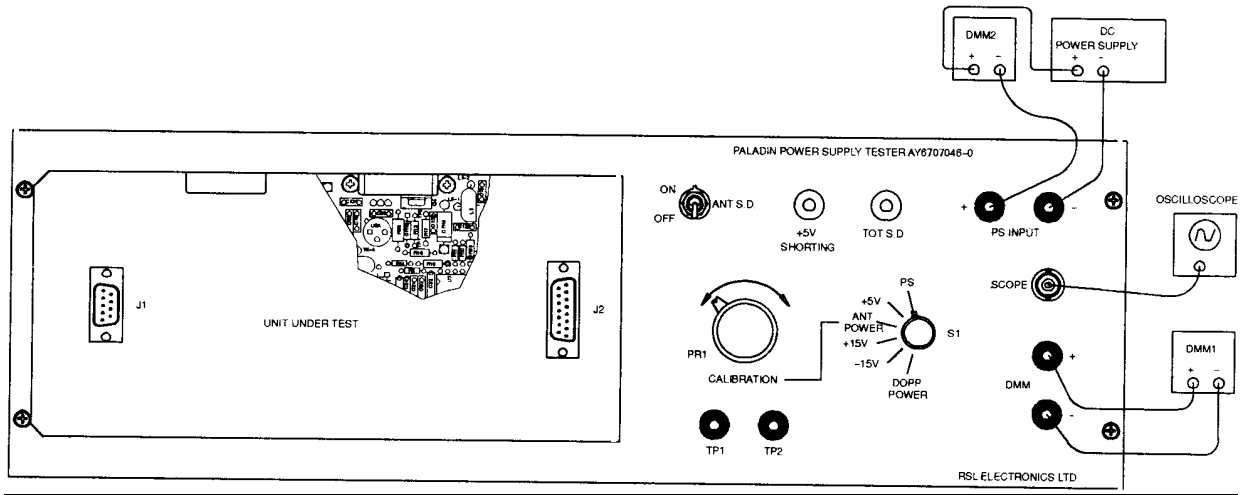
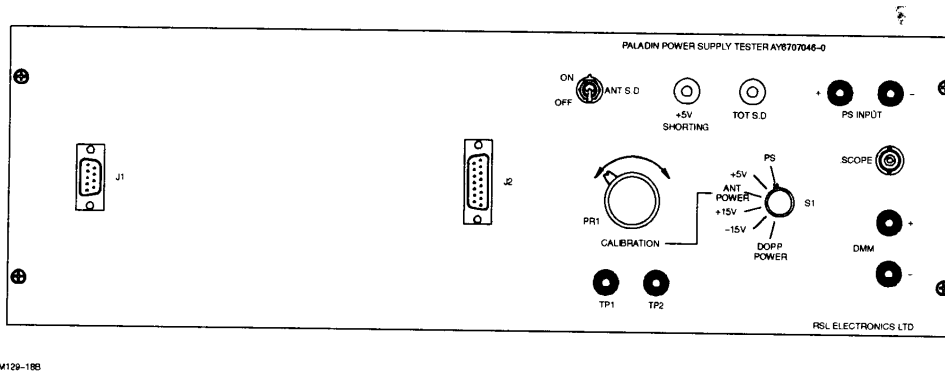

Figure D-26. Power Supply Module Test Setup
Figure D-27. Power Supply Module Test Fixture
D.6.11.1.1 Power Supply Module Test Procedures. The test setup provided in Figure D-26. shows the equipment used and cable hookup for the test procedure. Figures D-27. and D-28. are detailed illustrations of the special testers.
D.6.11.2 PREPARATION FOR TEST. The test is conducted on a disassembled UUT. The test setup is shown in Figure D-26. Figures D-27. and D-28. are detailed illustrations of the special testers.
- h. Connect the UUT to the test setup IAW Figure D-26.
D.6.11.4.1 **PREPARATION FOR TEST.** The test is conducted on a disassembled UUT. The test setup is shown in Figure D-29. Figures D-27. and D-28. are detailed illustrations of the special testers.